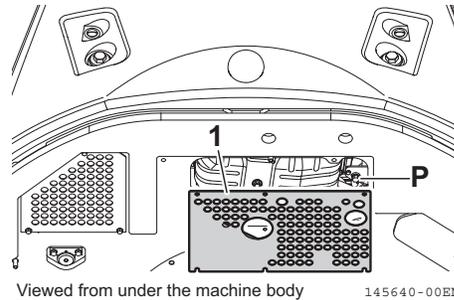

Fig. 8-75
1. Swing the upperstructure so that the drain plug (**Fig. 8-75, P**) will be positioned in the middle of the right and left crawlers.
2. Remove the cover (**Fig. 8-75, 1**) located under the rear of the upperstructure.
3. Put the container for waste fluid under the drain plug (**Fig. 8-75, P**).
4. Slowly remove the drain plug (**Fig. 8-75, P**) using a tool with a width across flats of 0.75 in. (19 mm) to drain the cooling water.
6. After the cooling water has been drained, reinstall the drain plug (**Fig. 8-75, P**).
13. Reinstall the cover (**Fig. 8-75, 1**), and close the hoods.